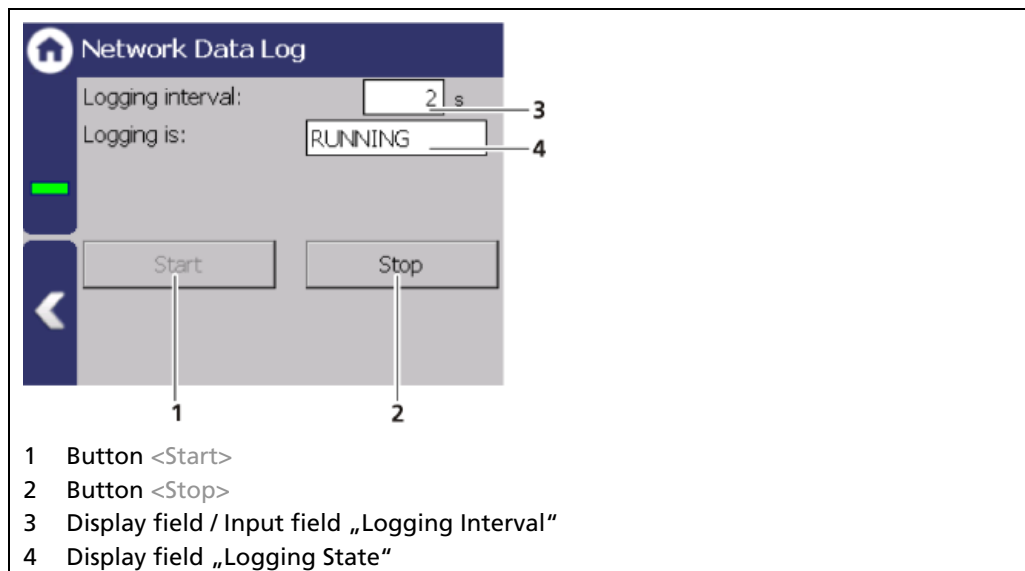

Fig. 130 Network Data Log (started)
1. Click on the button <Stop> if necessary. Click on the entry field "Logging interval" (Fig. 130, item 3) and enter an interval.
2. Start the network data log with the button <Start> (Fig. 130, item 1).